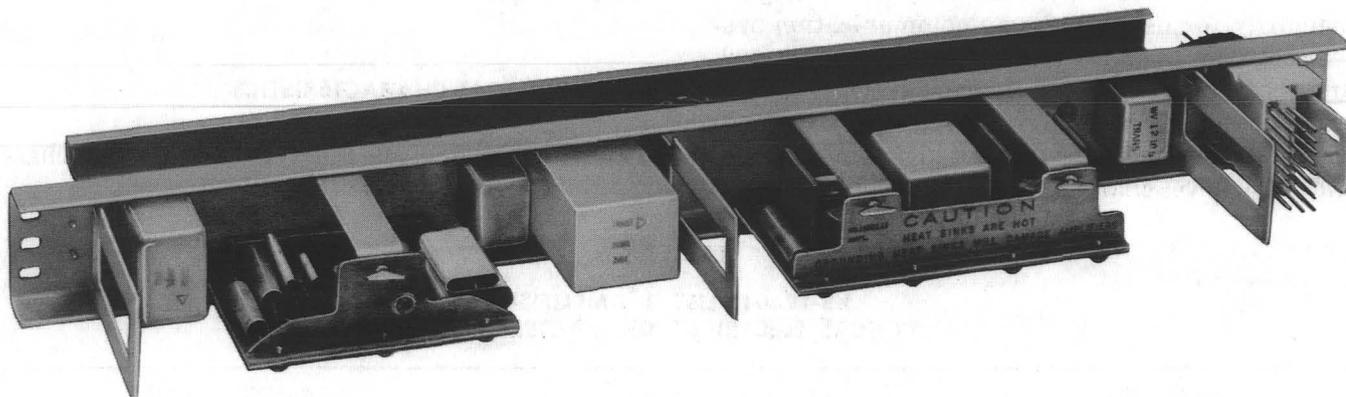
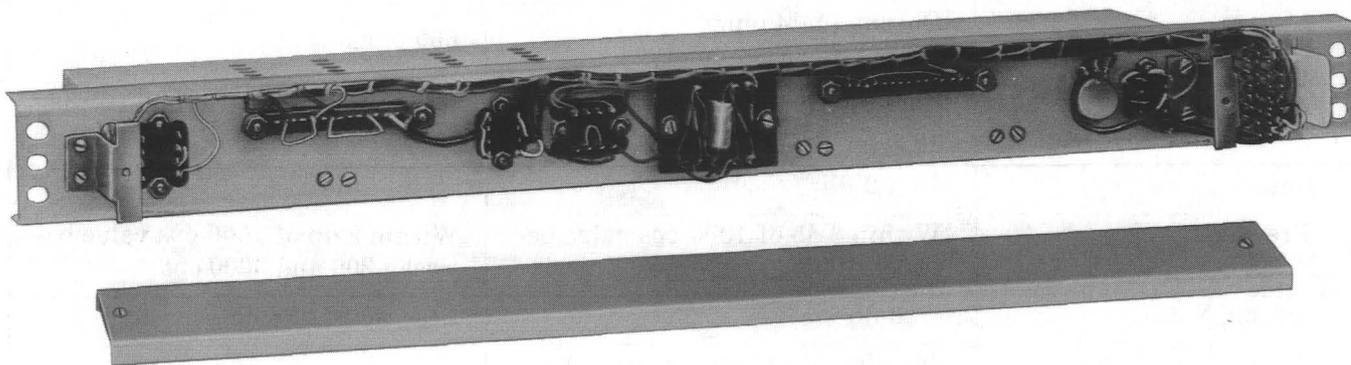

Fig. 1 — KS-19601, List 1 Amplifier — Front View with Cover Removed
Fig. 2 — KS-19601, List 1 Amplifier — Rear View with Cover Removed
3.01 Figure 1 is a front view of the KS-19601, List 1 amplifier with the protective cover removed, and Fig. 2 is a rear view with the protective cover removed. This amplifier consists of two plug-in amplifier units, two amplifier connector sockets, four transformers, a potentiometer, a sidetone attenuation network, and a terminal strip, all assembled on a 2- by 23-inch mounting plate and completely shop wired.
3.03 The two plug-in amplifiers, KS-19220, List 2 and KS-19221, List 1 (see Fig. 1), are transistorized units. In each unit the circuit components are mounted on a printed wiring board which is attached to a metal faceplate. The faceplate also acts as a mounting bracket. The amplifiers plug directly into the amplifier connector sockets. Hand-operated wing-type fasteners are used to hold the amplifiers in place.